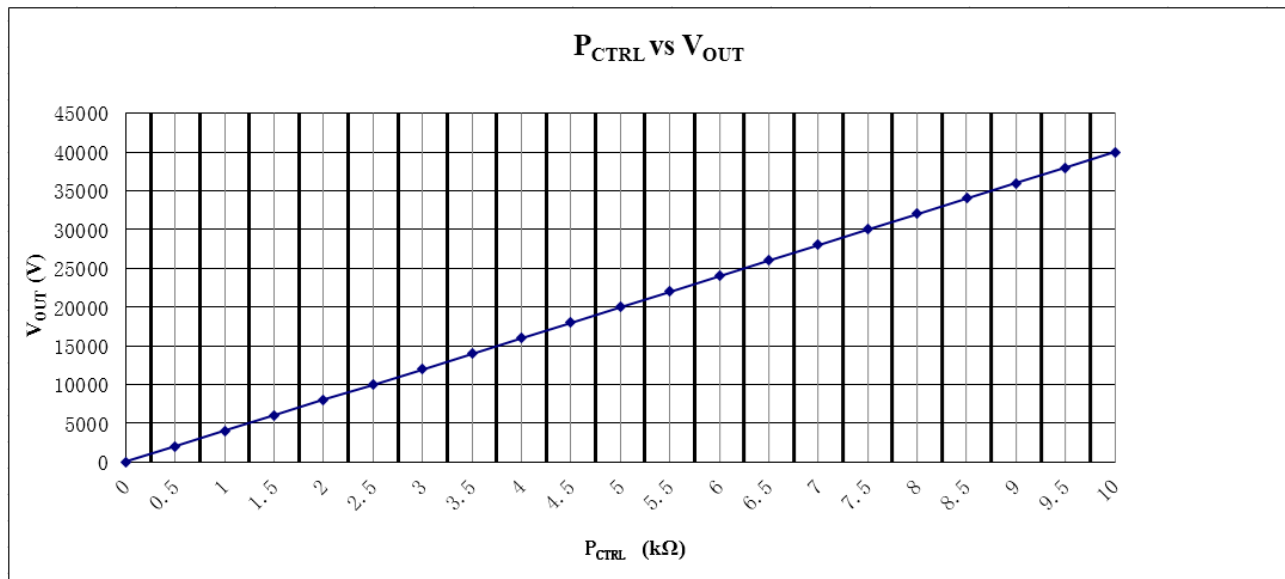

Figure 4. P\_CTRL VS. V\_OUT
5. HV adjustment: 10-turn potentiometer for adjusting output voltage. Rotate it clockwise to increase the output voltage, and the potentiometer resistance = the corresponding scale  $\times$  10 $\Omega$ . For example, as Figure 4 shows, when the scale is 10, and the frame above the scale shows 1 (1k $\Omega$ ), then the resistance =  $10 \times 10\Omega + 1k\Omega = 1.1k\Omega$ , and the like.